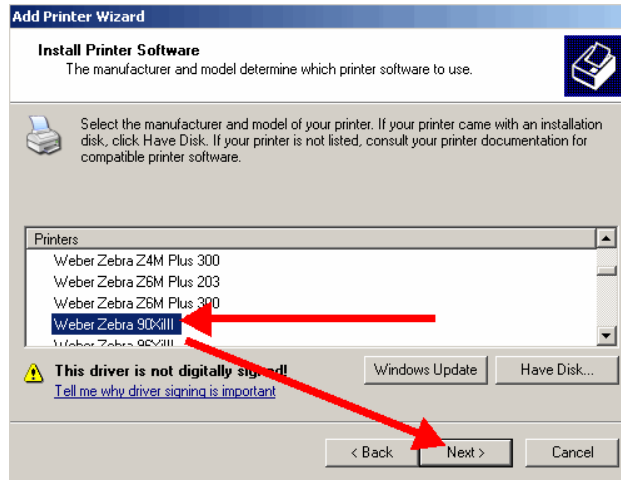

Figure 3-12
3.2.12. Scroll through the list of printers and highlight the model to install. (Figure 3-12)
3.2.13. Click [Next]. (Figure 3-12)